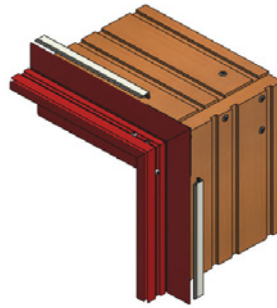

Figure 1a
- Place accessory retainer clips (2) in universal frame groove. Apply one clip 25mm from each corner and move inward. Applying additional clips at a maximum spacing of 500mm. (Figure 1a & 1b)